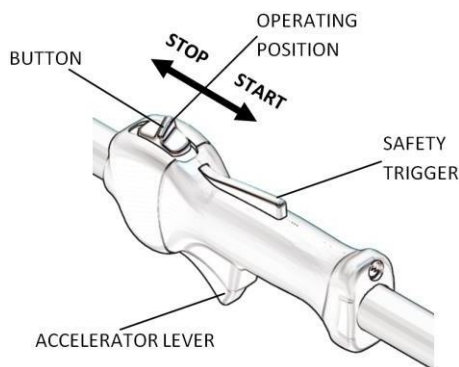

Fig.17
For the correct use of the gas control handle (Fig. 17), the operator must be familiar with all its functions, and in this way switch on the machine and keep the work speed under control
- Leave the red switch on the gas handle on operating position (see fig. 17). Rotate the red air lever onto starting position (vedi fig. 21) towards left (clockwise). Now it important to avoid accelerating, otherwise the red air lever will return to initial position and the engine will not start. N.B. When you first accelerate, the lever returns automatically to operating position.
After finishing work, clean the machine and the cutting organ from any dirt or grass, protect the blades or the disk saws with the protection provided in order to prevent injury during transport (Fig. 17).